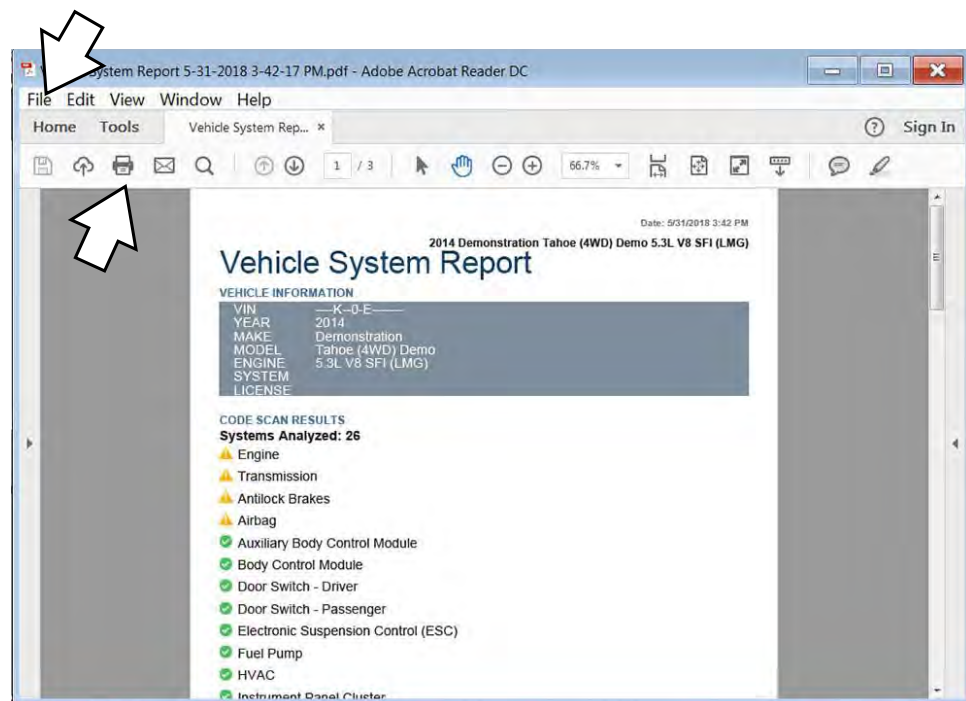

Figure 4-21
4. From the PDF viewer use the menu or toolbar print options to print the file (Figure 4-21).